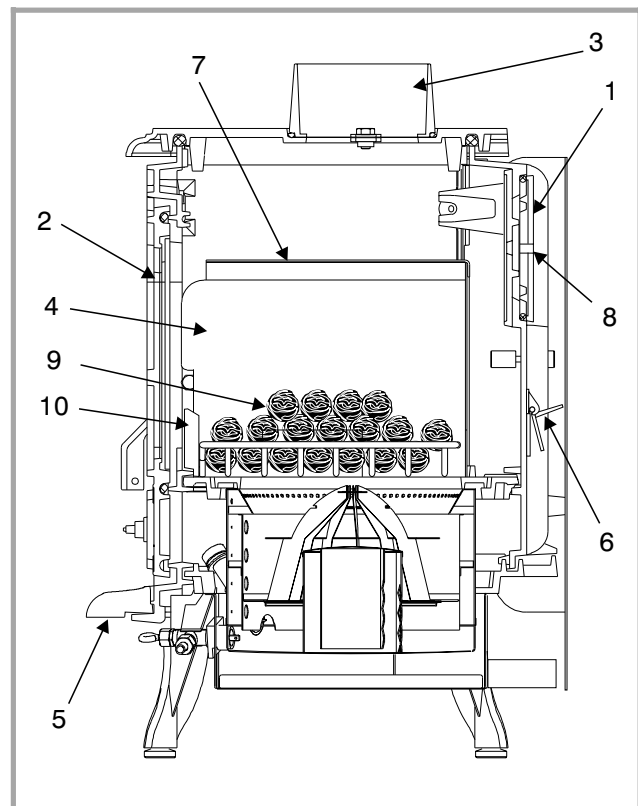

Figure 4 - Description
- Open the main door, remove the ceramic coal grate with theirs coal (# 9 and 10, fig. 4, p. 4) and remove the internal baffle (# 4 and 7, fig. 4, p. 4).